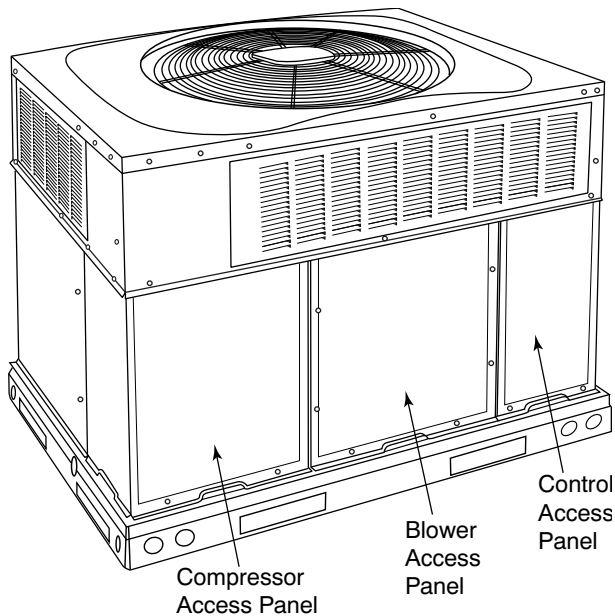

Fig. 18 – Unit Access Panels
- a. Remove blower access panel (see Fig. 18).
- g. Reinstall blower access panel (see Fig. 18).
1. Remove control access panel (See Fig. 18).
Remove blower access panel (see Fig. 18). Limit switch(es) are located on the fan partition.
3. Remove control access panel (See Fig. 18).
Remove access panels (see Fig. 18) to locate all the electrical controls and wiring. Check all electrical connections for tightness. Tighten all screw connections. If any smoky or burned connections are noticed, disassemble the connection, clean all the parts, re-strip the wire end and reassemble the connection properly and securely.